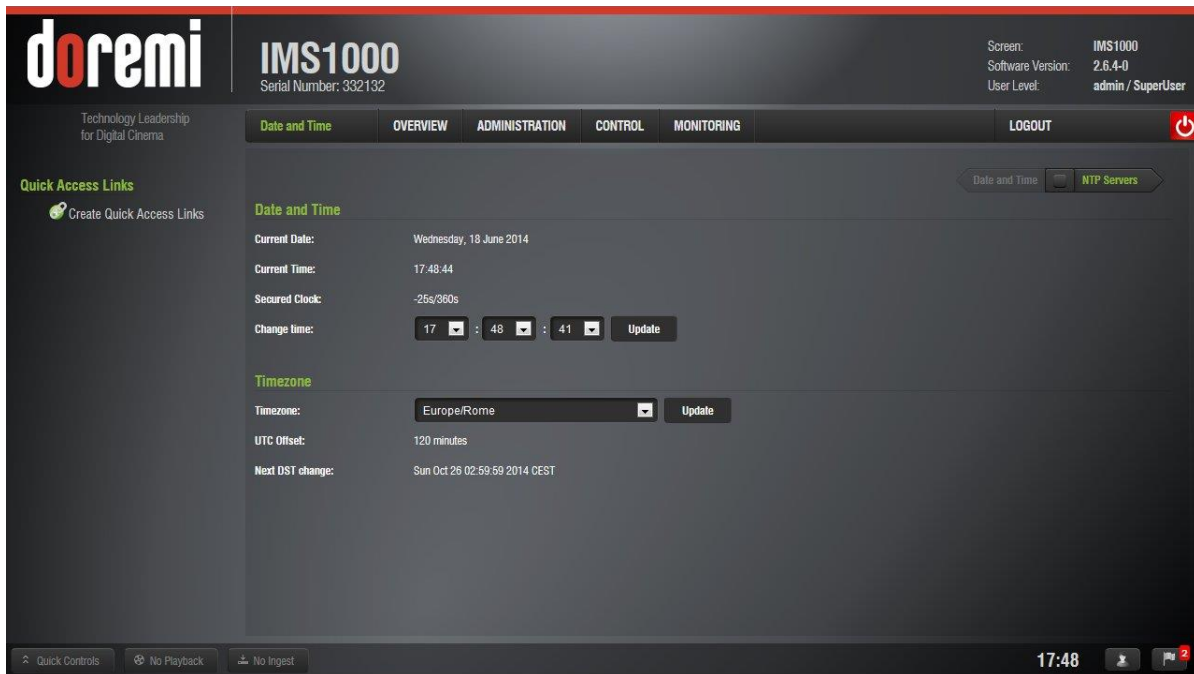

Figure 101: Current Date and Time Window
- To check the time and time zone, go to Administration → Control Panel → Time Settings and the Date and Time tab will appear (Figure 101).